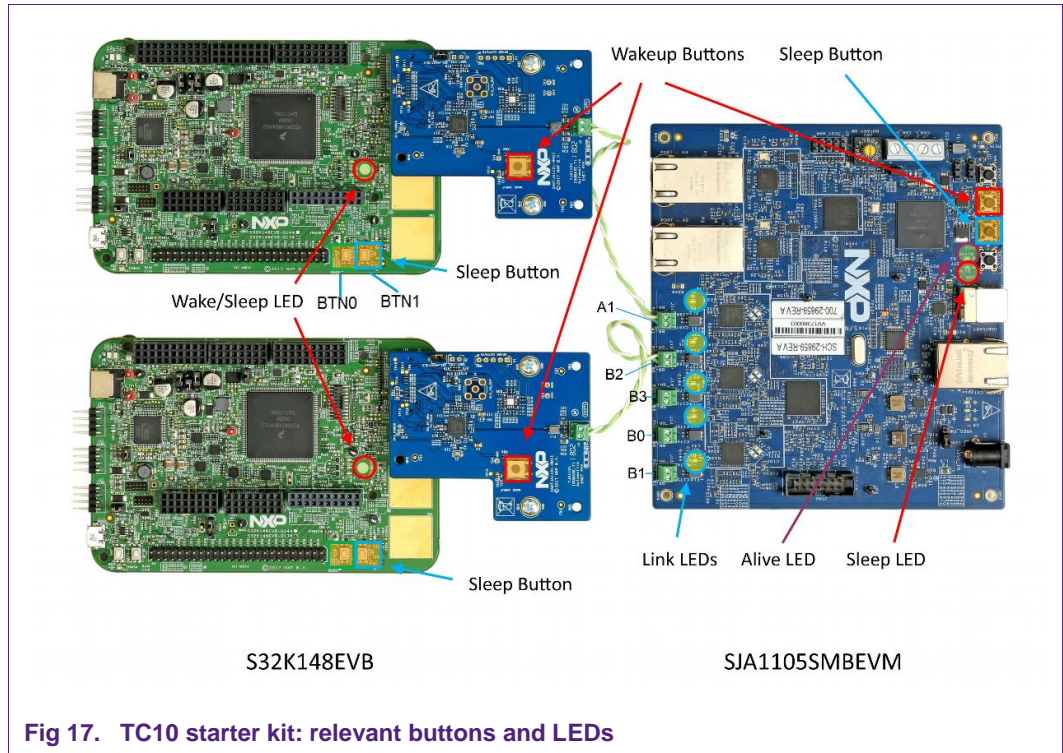
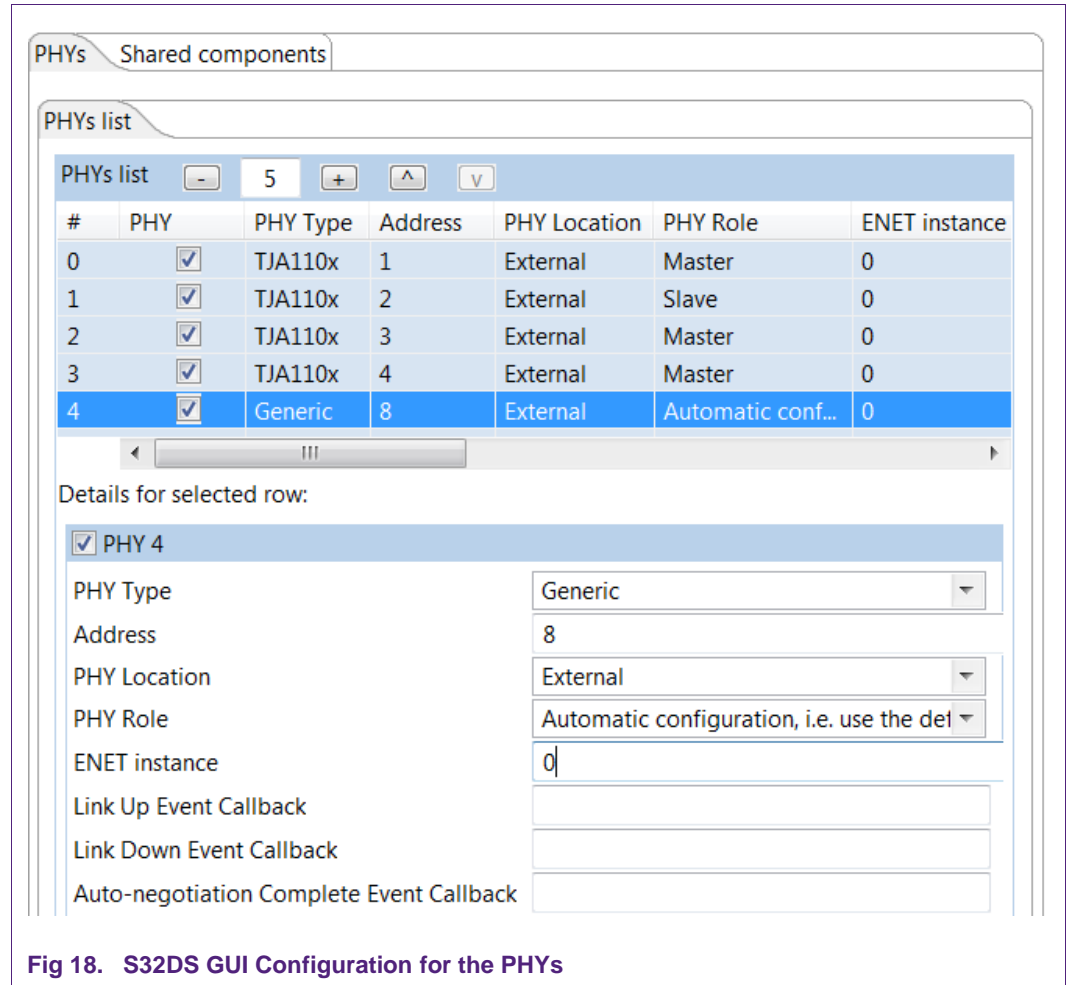

Fig 17. TC10 starter kit: relevant buttons and LEDs
Fig 18. S32DS GUI Configuration for the PHYs
- If everything goes well, you will see the debug view, and the main window will show, that the program has stopped on “main()”. Then you can select “Run -> Run” or use a shortcut key Ctrl + F11. The program continues, and the sleep/wake LED will be switched on (see Fig 17 for location of the sleep/wake LED, and Table 1 for description of the sleep/wake LED).
On the S32K148EVB side, the wakeup button is located on the ADTJA1101-RMII daughter board, while for going to sleep, one of the general-purpose buttons (BTN1, see Fig 17) is used. The Sleep Request SMI command will be sent to the TJA1101 when pushing the sleep button on the S32K148EVB board. A wakeup request will be sent to the TJA1101 when pushing the wakeup button on the ADTJA1101-RMII board (refer to the TJA1101 datasheet for more details).
- Push the two push buttons (BTN0 & BTN1, see Fig 17) simultaneously. The PHY configuration will be swapped: Master will become Slave and vice versa.
The 3-color LED on the S32K148EVB which is marked as “Wake/Sleep LED” in the Fig 17 is used to indicate the TJA1101 sleep/link up status:
Please note that the connection to ports A1 and B2 in Fig 17 is exemplarity. It can be connected to any other 100BASE-T1 port of the SJA1105SMBEVM, such as B3, B0 and B1 depending on the specified use case.
The meanings of two push buttons and three status LEDs which are shown in Fig 17 are described in below tables.
As shown in Fig 18, the Master/Slave settings of the 5 100BASE-T1 ports (Fig 17) can be re-configured by the S32DS GUI driver configuration. The default settings can be found in Table 4.
The column “WAKE_IN_OUT” refers to wakeup signal sent to the PHY via a rising pulse on the WAKE_IN_OUT line, which connects the WAKE_IN_OUT pin of all PHYs on the SJA1105SMBEVM. The pulse may be generated by pushing the wakeup button which is shown in Fig 17.
Pressing “Sleep button” (Fig 17) on the SJA1105SMBEVM writes a sleep request to each PHY. This results in sending a sleep request over the link to the link partner. All PHYs on the SJA1105SMBEVM and the TJA1101 on the ADTJA1101-RMII will go to sleep if no data is detected on MII or MDI during the intermediate state (Sleep Request mode) before Sleep mode. Please refer to the TJA1102 application hint (AH1508) for more details of the process from active link to sleep.
Please note that the below behaviors are based on default configurations in Table 5 & Table 6, and the connection shown in Fig 17 **Error! Reference source not found.** The behavior may be different with different wake up and wake up forwarding configurations.
- There are two options to wake up the slept PHYs after sleep operation described in chapter 3.6.4.2. Option 1: press the “Wakeup button” on the SJA1105SMBEVM board (Fig 17). A rising wake up signal will be sent to the WAKE_IN_OUT pin of the PHYs on the SJA1105SMBEVM. All PHYs on the board will be waked up.
- Option 2: press the “Wakeup button” on the ADTJA1101-RMII which is connected to the A1 port of the SJA1105SMBEVM via Ethernet cable (Fig 17). The TJA1101 will be waked up by local wake up signal and send out wake up request over the link. The TJA1102S (A1 port) will be waked up by the remote wake up signal, and then forward the wake-up request to the WAKE_IN_OUT pin by generating a rising edge (configured as “react on remote wake up, and forward remote wake up to local”). All PHYs on the SJA1105SMBEVM will be waked up since all of them are configured as “react on local wake up”.
- Press the “Wakeup button” on the ADTJA1101-RMII which is connected to the B2 port of the SJA1105SMBEVM (Fig 17). The TJA1101 will be waked up by local wake up signal, and send out wake up request to B2 over the link. B2 will stay in Sleep mode since it’s configured as “no react on remote wake up”.